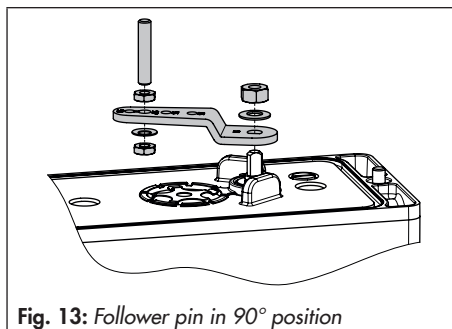

Fig. 13: Follower pin in 90° position
4. Insert and fasten the follower pin in the 90° position on the positioner's lever (see Fig. 13). Only use the longer follower pin included in the mounting kit.
5. Align the positioner on the adapter bracket (1) in such a way that the follower pin engages into the actuator's follower wheel (3).
6. Fasten the positioner onto the adapter bracket (4) using the fastening screws (6).
4. Insert and fasten the follower pin into the 90° position on the positioner's lever (see Fig. 13 on page 58).
7. Mount the Type 3710 Reversing Amplifier (7) together with the two guide bush-